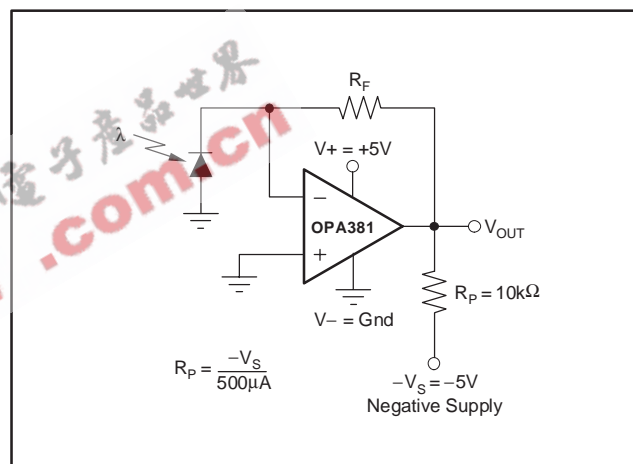

Figure 3. Amplifier with Pull-Down Resistor to Achieve $V_{OUT} = 0V$
- (1) High temperature operating life characterization of zero-drift op amps applying the techniques used in the OPA381 have repeatedly demonstrated randomly distributed variation approximately equal to measurement repeatability of $1\mu V$. This consistency gives confidence in the stability and repeatability of these zero-drift techniques.
- (2) Tested with output connected only to R_p , a pulldown resistor connected between V_{OUT} and $-5V$, as shown in Figure 3. See also **Applications** section, *Achieving Output Swing to Negative Rail*.
- (3) Transimpedance frequency of 250kHz.
- (4) Time required to return to linear operation.
- (5) From positive rail.
The OPA381 performance results from an internal auto-zero amplifier combined with a high-speed amplifier. The OPA381 has been designed with circuitry to improve overload recovery and settling time over that achieved by a traditional composite approach. It has been specifically designed and characterized to accommodate circuit options to allow 0V output operation (see Figure 3).
The output of the OPA381 can be made to swing to 0V, or slightly below, on a single-supply power source. This extended output swing requires the use of another resistor and an additional negative power supply. A pull-down resistor may be connected between the output and the negative supply to pull the output down to 0V; see Figure 3.